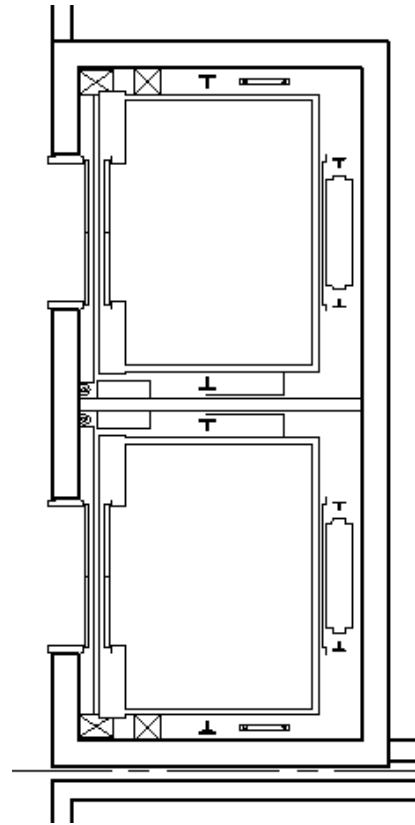

Figure 4-3.11 Elevator added to plan
26. Use the **Mirror** command to copy a mirror image of the elevator car to the opposite side of the shaft (Figure 4-3.11).
27. **Trim** the wall lines and place the jamb lines on **A-wall** layer (not the elevator frame, just the line that closes off the wall); see Figure 4-3.11.
Your elevator should now look like Figure 4-3.11. Several details are drawn, such as the guide rail, the cab door, the floor level door and even the pit ladder.
Many architectural firms have a copy of the major elevator manufacturers' technical catalogs which provide enough information to manually draw everything in Figure 4-3.11. But it is not difficult to see how the Internet can save time when AutoCAD content is available; not all manufacturers provide AutoCAD drawings of their products.